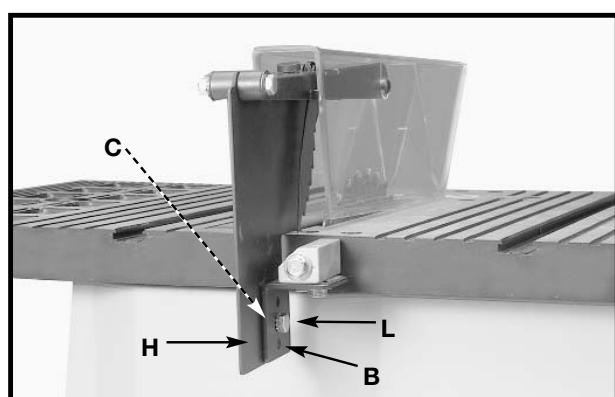
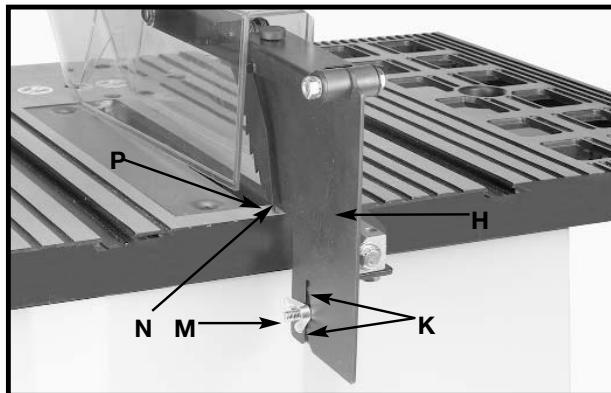

Fig. 22
Fig. 23
6. Attach the splitter (H) Fig. 22 to the splitter support bracket (B). Place a 1/4 inch external tooth lockwasher and an M6.4 flat washer on an M6x1x20mm hex head screw (L).
7. Insert the screw (L) Fig. 22 through the splitter support bracket (C) and the splitter (H). Place an M6.4 flat washer and a 1/4 inch external tooth lock washer on the screw (L). Thread an M6x1 wing nut (M) Fig. 23 on the screw (L) Fig. 23.
NOTE: Before tightening the wing nut (M) Fig. 23, make certain a gap of at least 1/8 inch is between the bottom edge of the splitter (N) and the top surface of the table (P) and that the protrusions (K) are inside the slot of the splitter assembly (H).